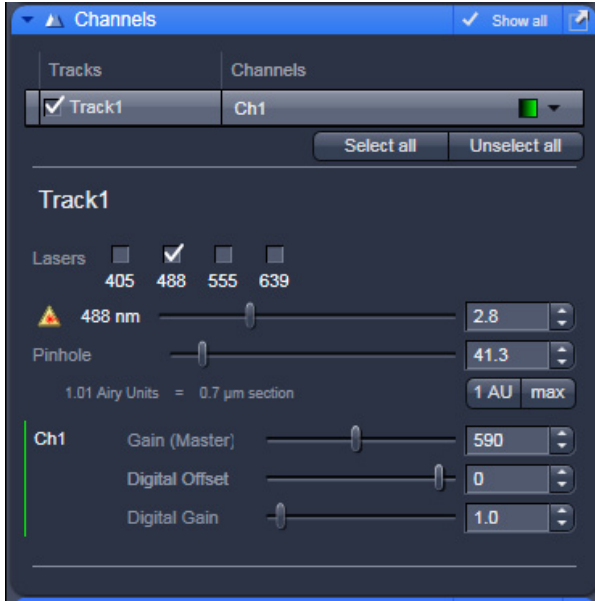

Fig. 155 Channels tool
- On the **Channels** tool in the LSM **Online Acquisition** tool group select the pinhole diameter so as to have the best possible image contrast (see Fig. 155).